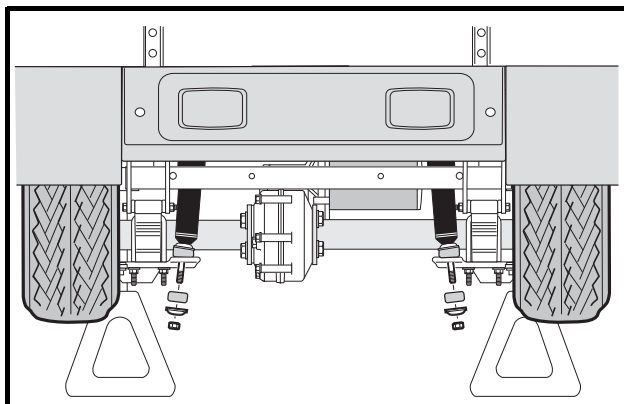
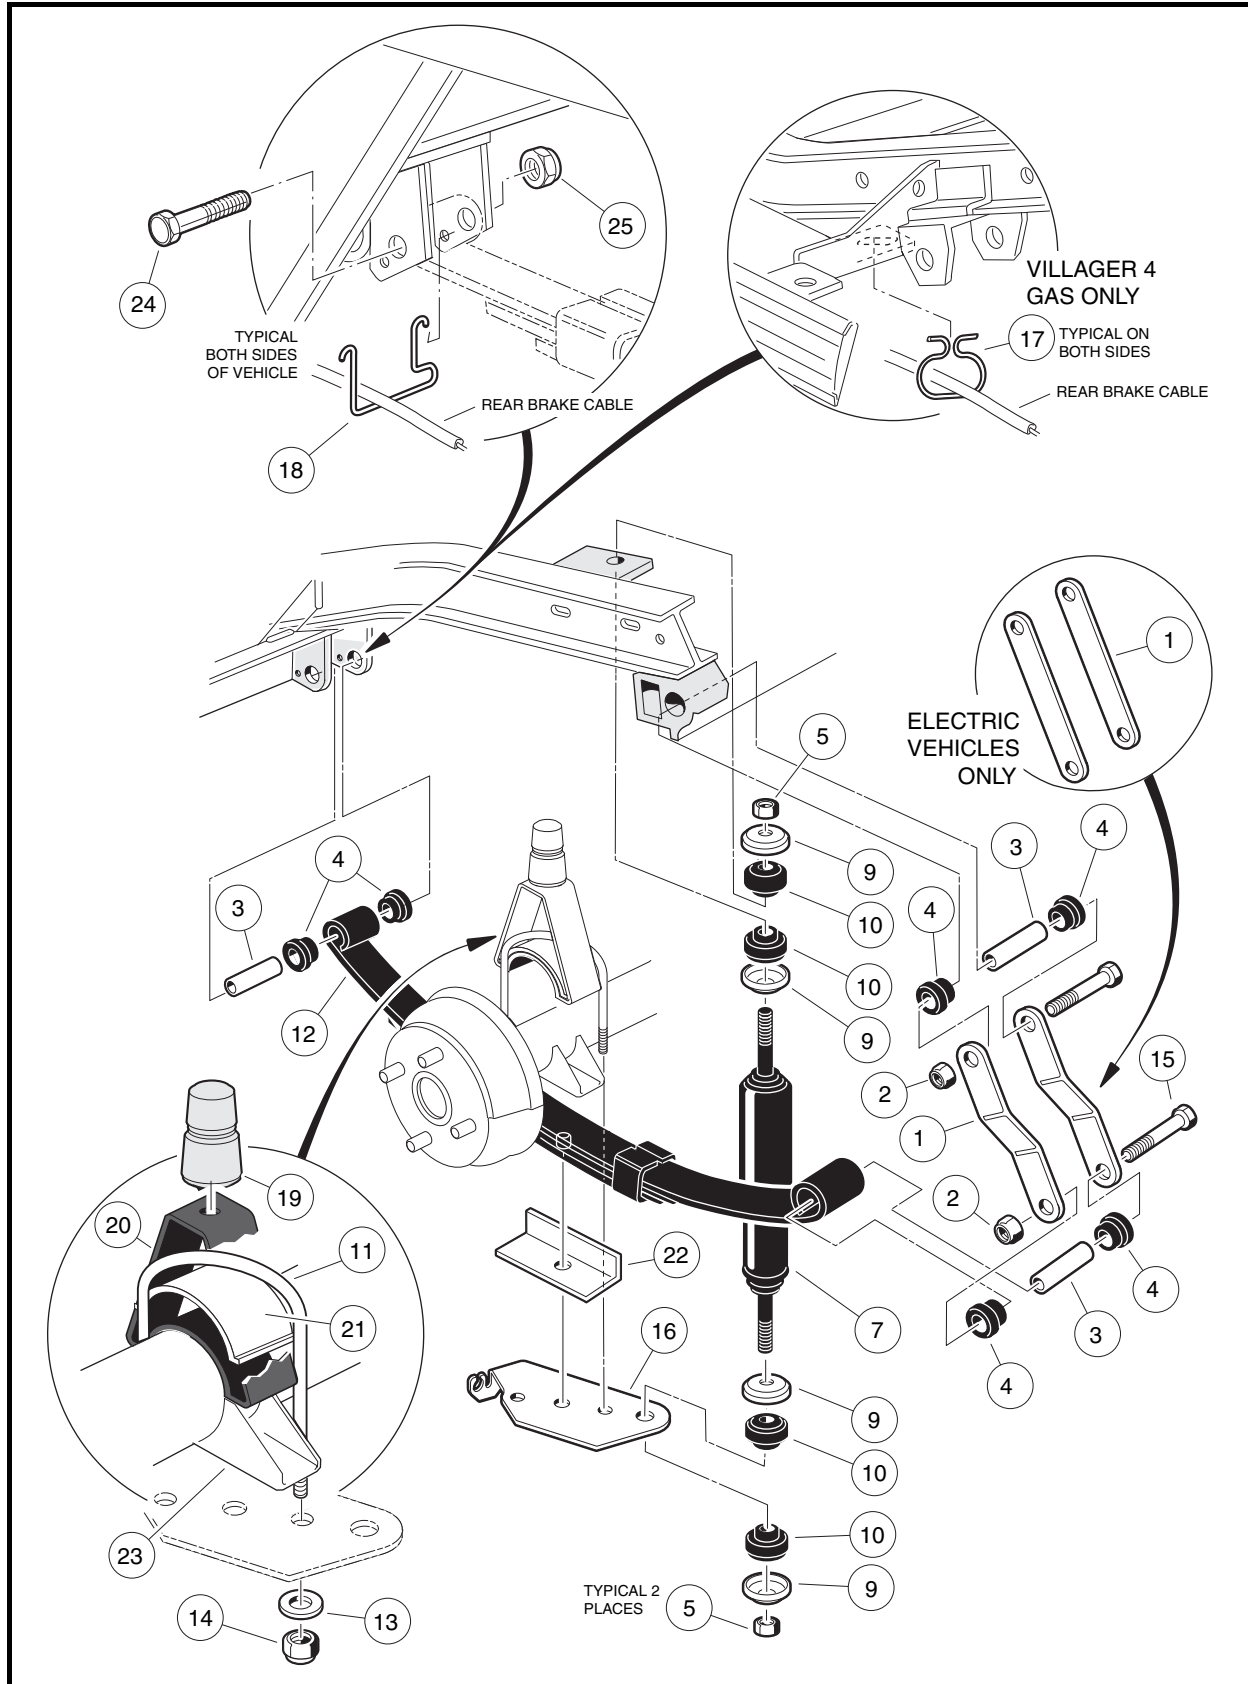
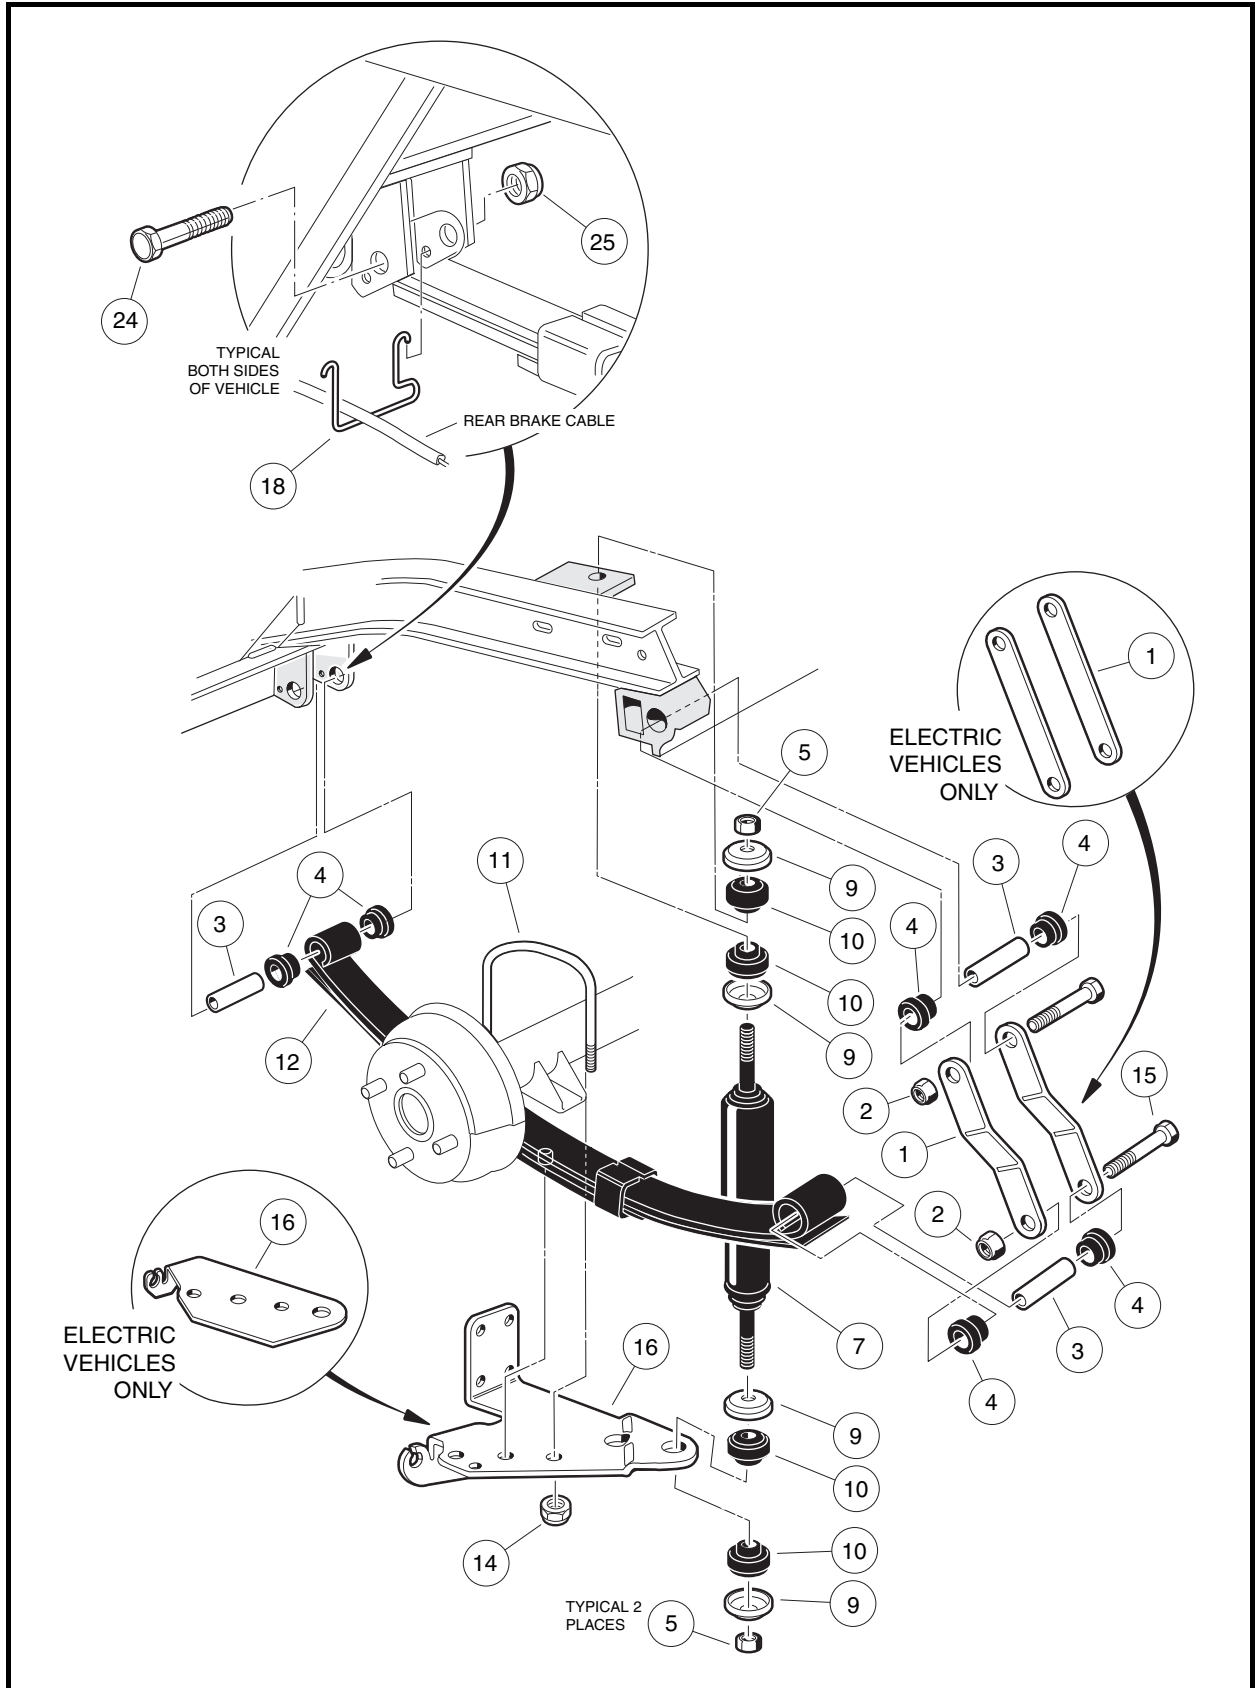

Figure 9-1 Remove Shock Absorbers
Figure 9-3 Rear Suspension – Villager 4 Vehicles
Figure 9-4 Rear Suspension – All Transportation Vehicles Except Villager 4
1. Check shock absorbers (7) for damage and fluid leakage around the lower housing of the shock absorber body. Replace damaged or leaking shock absorbers (**Figure 9-3, Page 9-4 or Figure 9-4, Page 9-5**).
2. To remove a shock absorber (7), remove the nut (5), cup washer (9), and rubber bushing (10) from the upper shock absorber stem.
3. Remove lower mounting hardware (5, 9 and 10) on shock absorber lower mount (**Figure 9-3, Page 9-4 or Figure 9-4, Page 9-5**). See also **Figure 9-1, Page 9-1**.
2. On the upper shock absorber mount, tighten nut (5) until rubber bushing (10) expands to size of cup washer (9) (**Figure 9-3, Page 9-4 or Figure 9-4, Page 9-5**).
3. On the lower shock absorber mount, install mounting hardware. Tighten the nut (5) until the rubber bushing (10) expands to the same diameter as the cup washer.
NOTE: Villager 4 vehicles are equipped with jounce bumpers (**Figure 9-3, Page 9-4**).
5. Remove lower nut (5), cup washer (9), and rubber bushing (10) from shock absorber (7) (**Figure 9-3, Page 9-4 or Figure 9-4, Page 9-5**).
- 6.1. Remove the lock nuts (14) and flat washers (13) (if present) attaching the U-bolt (11) to the shock mount bracket (16). Remove jounce bumper mount (20) and spacer (21) (**Figure 9-3, Page 9-4**).
- 6.2. Allow shock mount bracket (16) to rotate downward and remove spring retainer (22). Do not disconnect brake cable from bracket (**Figure 9-3, Page 9-4**).
- 7.1. Remove the lock nuts (14) attaching the U-bolt (11) to the shock mount bracket (16). Do not disconnect brake cable from bracket (**Figure 9-4, Page 9-5**).
8. Raise axle with floor jack until axle saddle (23) is 1 inch (2.5 cm) above spring (**Figure 9-3, Page 9-4**).
9. Remove bolt (15) and lock nut (2) attaching the leaf spring (12) to the rear shackle (1) (**Figure 9-3, Page 9-4 or Figure 9-4, Page 9-5**).
10. Allow rear of leaf spring (12) to rest on the ground and remove the bolt (24) and lock nut (25) attaching the front of the spring to the vehicle frame (**Figure 9-3, Page 9-4 or Figure 9-4, Page 9-5**). Remove spring from vehicle.
11. Inspect the rubber bushings (4) and steel sleeves (3) in the spring eyes and replace them if they are worn or damaged (**Figure 9-3, Page 9-4 or Figure 9-4, Page 9-5**).
1. Install rubber bushings (4) and steel sleeves (3) into leaf spring eyes if bushings were removed (**Figure 9-3, Page 9-4 or Figure 9-4, Page 9-5**).
2. Place front of leaf spring (12) into vehicle frame and insert bolt (24) through frame and leaf spring eye. Install lock nut (25) and tighten to 15 ft-lb (20.3 N-m).
3. Align the other end of leaf spring with the holes in the spring shackles (1). Insert bolt (15) through leaf spring eye and shackles. Install lock nut (2) and tighten to 15 ft-lb (20.3 N-m). Lower transaxle onto leaf spring (12). **See following CAUTION.**
- When placing transaxle on spring, be sure to position locating bolt on the spring in the locating hole in the transaxle saddle (23) (**Figure 9-3, Page 9-4**).
- 4.1. Install spring retainer (22) and shock mount bracket (16) onto locating bolt at bottom center of leaf-spring (**Figure 9-3, Page 9-4**). **See preceding CAUTION.**
- 4.2. Position jounce bumper mount (20) with spacer (21) onto axle tube. Install U-bolt (11), flat washers (13) (if present), and lock nuts (14). Tighten U-bolt to 25 ft-lb (34 N·m) (**Figure 9-3, Page 9-4**).
- 5.1. Install shock mount bracket (16) onto locating bolt at bottom center of leaf-spring (**Figure 9-4, Page 9-5**). **See preceding NOTE.**
- 5.2. Install U-bolt (11) and lock nuts (14). Tighten U-bolt to 25 ft-lb (34 N·m) (**Figure 9-4, Page 9-5**).
1. Grip jounce bumper (19) and pull from bumper mount (20) (**Figure 9-3, Page 9-4**).
1. Insert jounce bumper (19) into bumper mount (20) (**Figure 9-3, Page 9-4**). Make sure the entire circumference of bumper is seated firmly in mounting hole.